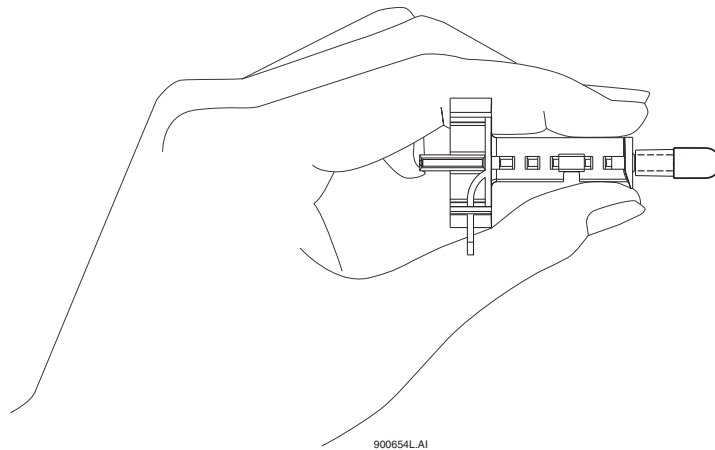

Figure 9.36 Array Fitting
11. While holding the Array Fitting tab (of the new capillary array), align the Array Fitting (Figure 9.36) with the manifold opening and guide pins. Push the fitting into the manifold until it is completely seated against the bases of the Guide Pins. Make sure that the fitting tab is placed downward when inserting the capillary array into its slot.